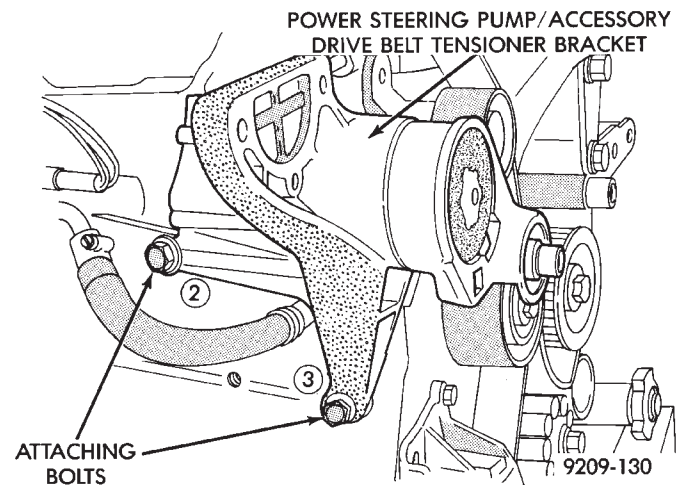

Fig. 13 Power Steering Pump/Accessory Drive Belt Tensioner Bracket Attaching Bolts
(6) Remove Bracket bolts #2 and #3 from rear of engine. Remove Bracket (Fig. 13).
- (1) Loosen assembly bracket to engine.
- (2) Tighten bolts #2 and #3 to 3.3 N•m (30 in. lbs.) (Fig. 13).
- (4) Tighten bolts #2 and #3 to 54 N•m (40 ft. lbs.) (Fig. 13).
- (5) Camshaft and Crankshaft timing should be checked at this time.